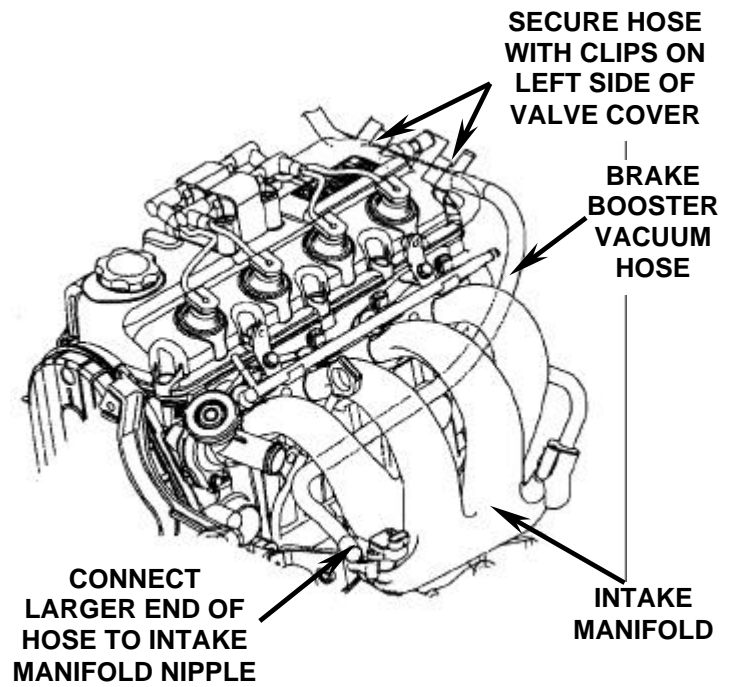

Figure 1
2. Disconnect the brake booster vacuum hose from the intake manifold nipple (Figure 1).
8. Connect the brake booster vacuum hose to the intake manifold nipple (Figure 1).